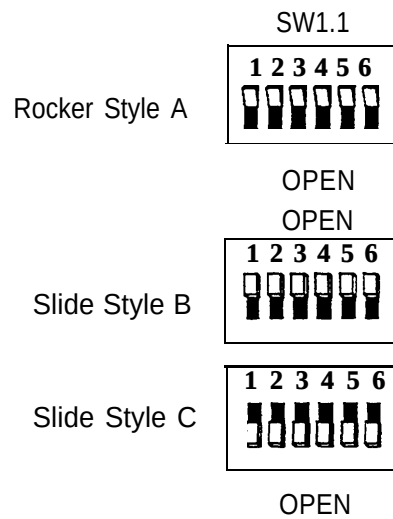
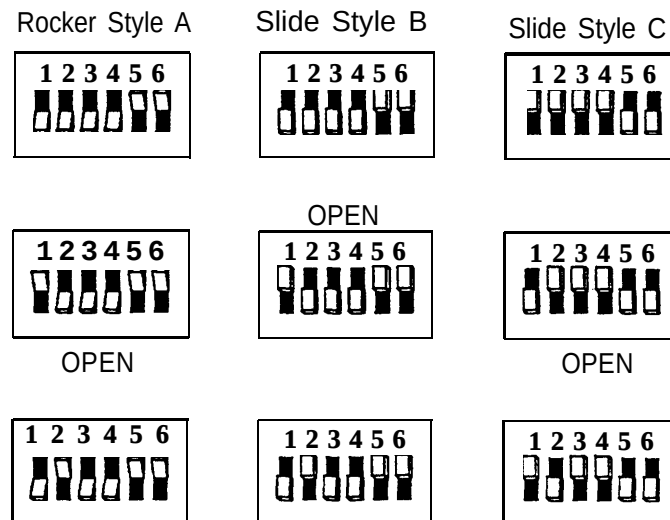

Figure 2-3. Settings for SW1.1
Figure 2-4. Settings for SW12.1
- If the board has unmarked slide switches, the setting of the second switch (SW12.1) should correspond to one of the settings shown in Figure 2-4. Use the configuration letter at the top of the column in which the match is found.
The first switch (SW1.1) controls the line impedance. The settings should all be set to the “OPEN” position initially (as shown in Figure 2-3 for each configuration). If problems are encountered with Touch-Tone recognition, change all of the switches on the first bank (SW1.1) to the opposite (closed) position.
The second switch (SW12.1) sets the board address. Figure 2-4 shows the correct settings for each of the three configurations.
1. Set the switches for each board according to its configuration and board number. See Figure 2-3 and Figure 2-4.